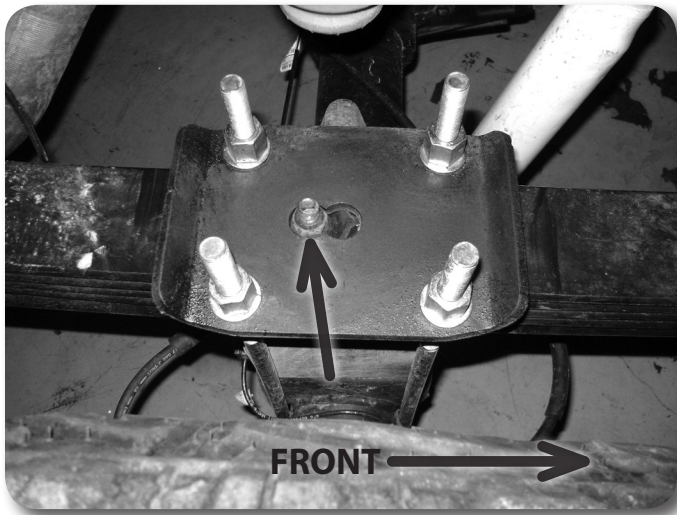

Figure 24
15. Raise the axle to engage the block spring alignment pins. Be certain the leaf center pin aligns with the REAR hole in the new lift block. Position the new u-bolt plate on the top of the spring over the center pin nut. Position the plate so the bolt pattern is shifted forward on the spring. **Figure 24** Fasten the entire assembly with the provided u-bolts, high nuts and washers. Snug but do not torque the u-bolts at this time.